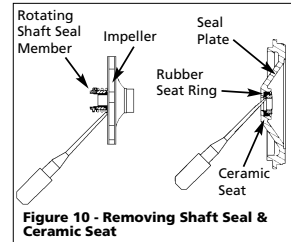

Figure 10 - Removing Shaft Seal & Ceramic Seat
8. Pry the rotating shaft seal member from the impeller (Figure 10).
9. Push or pry the ceramic seat free from the seal plate (Figure 10).